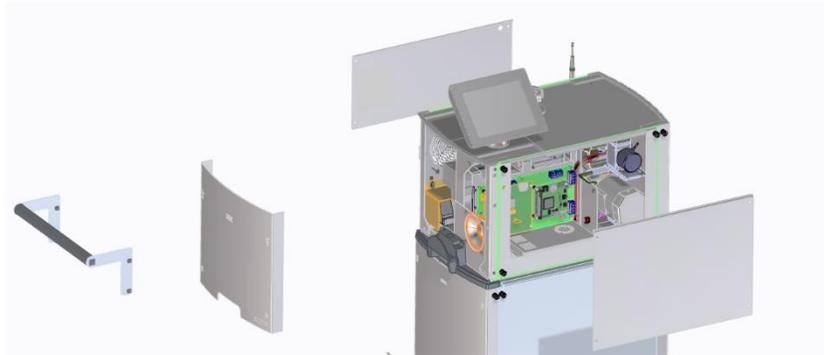

Figure 1: Rear and Front Cover Screws
3. Using a slotted screw driver, remove the four screws holding the front and side covers (Figure 1: Rear and Front Cover Screws) and detach the covers. Some leak detector models have a handle. If the option is present, remove the handle using a metric Allen wrench before removing the front cover.